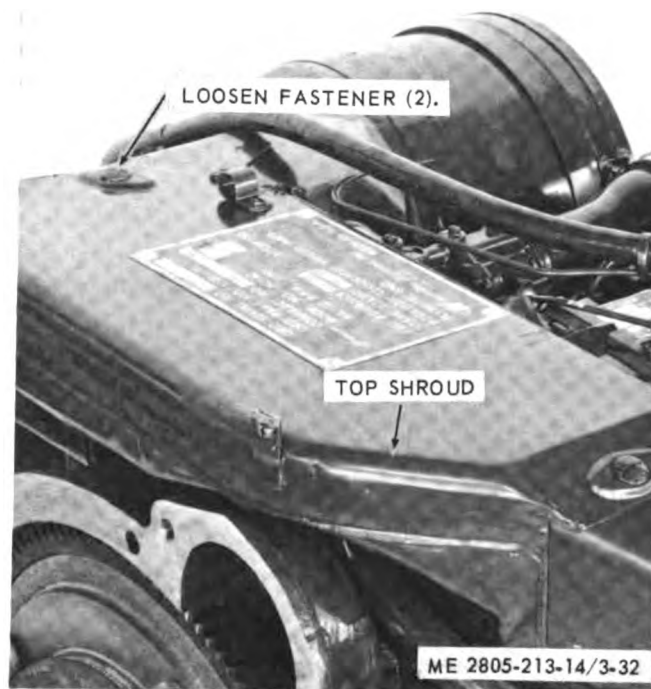

Figure 3-32.—Top shroud, removal and installation.
a. Removal. Refer to figure 3-32 and remove the top shroud.
(1) Clean the top shroud with an approved cleaning solvent and dry thoroughly.
(2) Inspect the top shroud and the fasteners for breaks, cracks, and other damage.
(3) Replace a defective shroud.
c. Installation. Refer to figure 3-32 and install the top shroud.